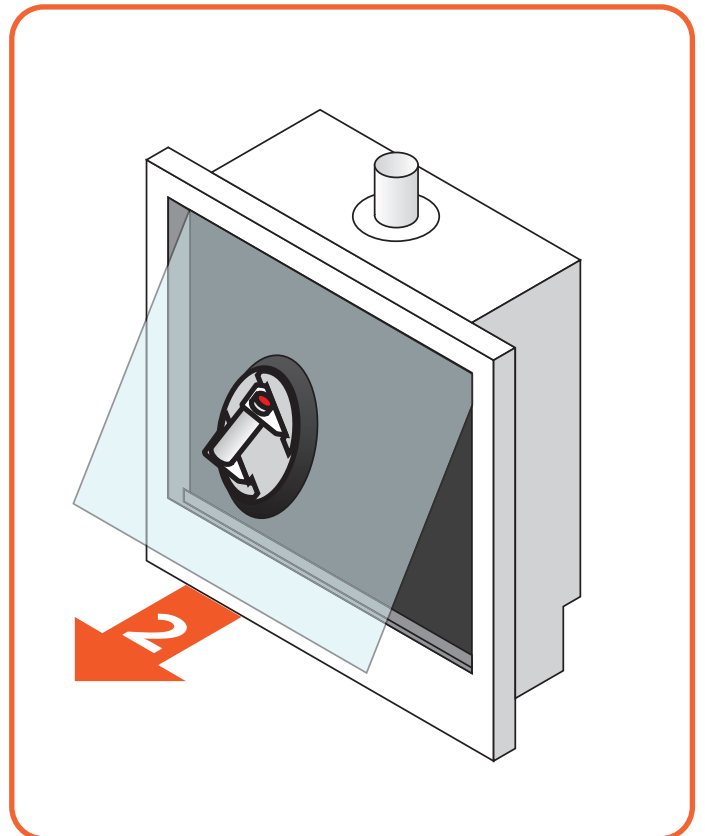

Figure 10.6 - Remove window by tilting
- Lift the glass out of the lower glass rail and tilt it out through the opening, as seen in *Figure 10.6*.